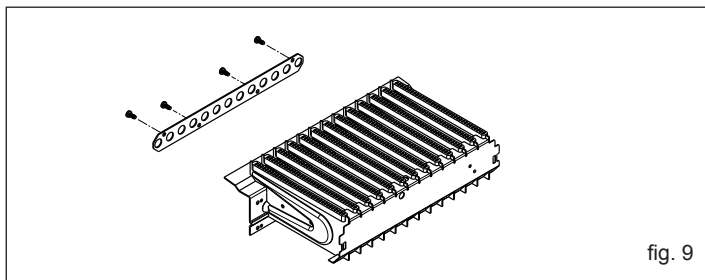

fig. 9
- in the case of gas conversion from natural gas to LPG, secure the burner flange contained in the kit using the screws (fig. 9)
- in the case of gas conversion from LPG to natural gas, remove the burner flange (fig. 9)